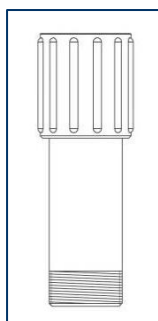

Fig. 1
1. Fit the transition adapter (see fig. 1) in the submersible motor pump and secure with a clamping screw.